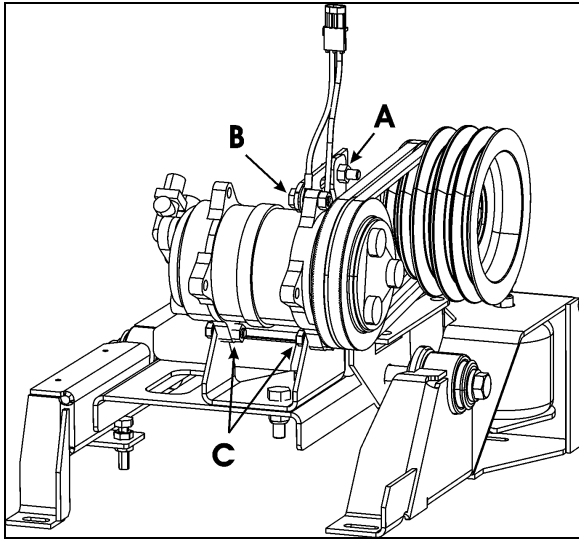

FIGURE 41: COMPRESSOR REMOVAL/ INSTALLATION
- Slacken bolts A (Figure 41).